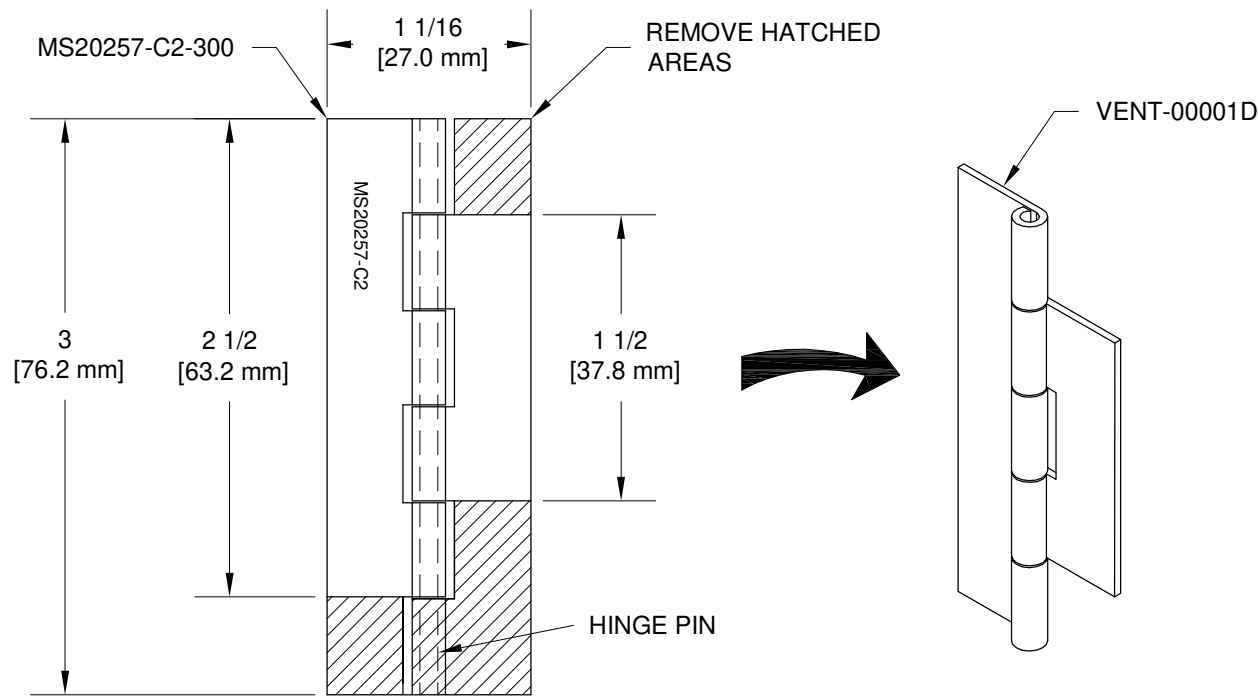

FIGURE 1: FABRICATE HINGES
Step 1: Fabricate two VENT-00001D from MS20257-C2 stainless steel hinge using the dimensions given in Figure 1. Trim the hinge pins to the length of the finished parts and insert.